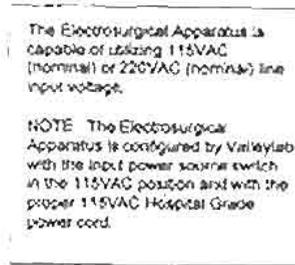

Figure 1-19. Voltage conversion decal.
(5) A decal (located on the top of the ES apparatus case) providing information about voltage conversion of the ES apparatus and the position of the conversion switch is depicted in figure 1-19.